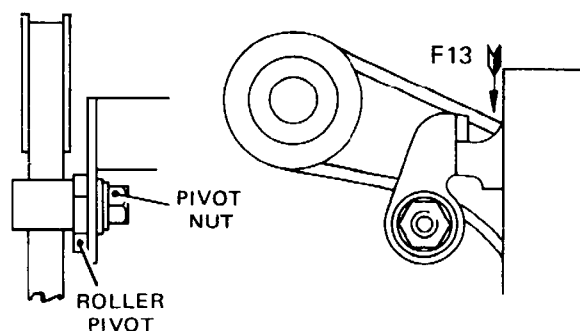

Fig. 4.113 TAPE READER DRIVE BELT
- 121.1 Apply a force of 200 grams to the drive belt at point F13, Fig. 4.113, and check that the deflection of the belt is 0.040–0.060 inch.